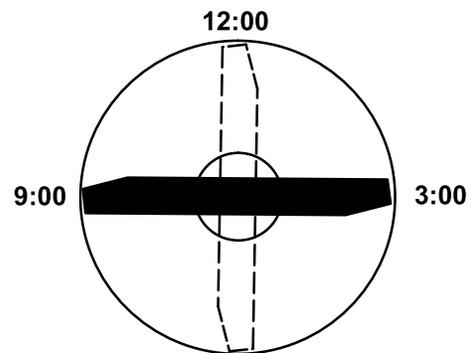

Figure 63
4. Position the cutting edge of the marked end of the blade at 12 o'clock (straight ahead in the direction of mowing) and measure height from table to cutting edge of blade (Figure 63).
5. Rotate the marked end of the blade to the 3 and 9 o'clock positions and measure the heights (Figure 63).